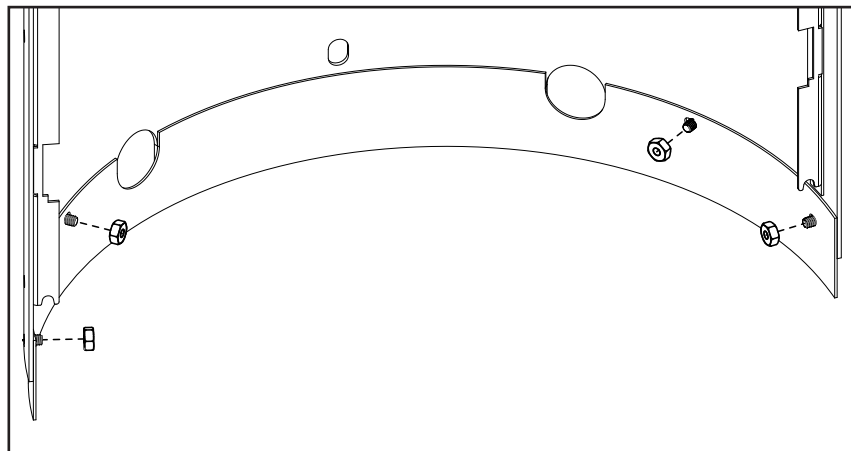

Figure 38: Rear Skirt Removal
Remove the four (4) nuts retaining the rear skirt using a 3/32" (or 9mm) socket (see Figure 38).